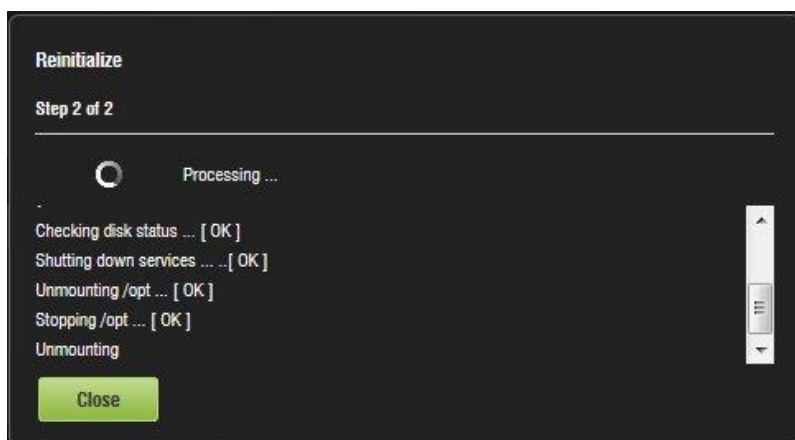

Figure 338: In Progress
- The process will begin (Figure 338).